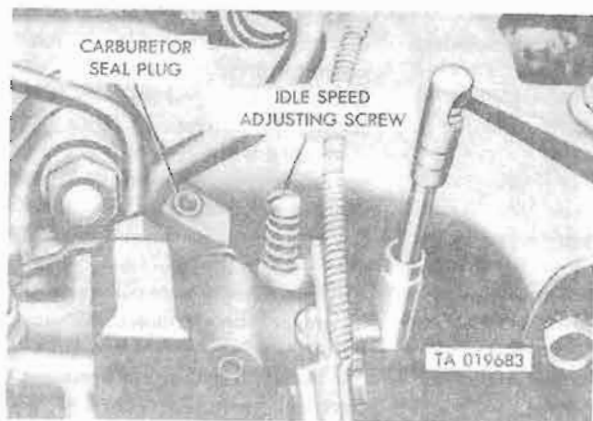

Figure 2-19.1. Idle Speed Adjusting Screw.
(2) Check to see that the engine timing and dwell are properly adjusted.
(3) Warm up the engine to normal operating temperature.
(4) Turn the idle adjustment screw until the engine reaches 700 rpm.
(5) Remove seal plug (fig. 2-19.1) and turn mixture adjustment screw using Allen Wrench counterclockwise until the maximum rpm is reached.
(6) Turn idle adjusting screw until engine reaches 700 rpm.
(7) Turn mixture adjustment screw clockwise until engine reaches 640-650 rpm.
(8) Disconnect the tester dwell tachometer from engine.
(9) Install a new seal plug in the carburetor idle mixture adjustment screw hole.
Figure 2-19.1 is added as follows: